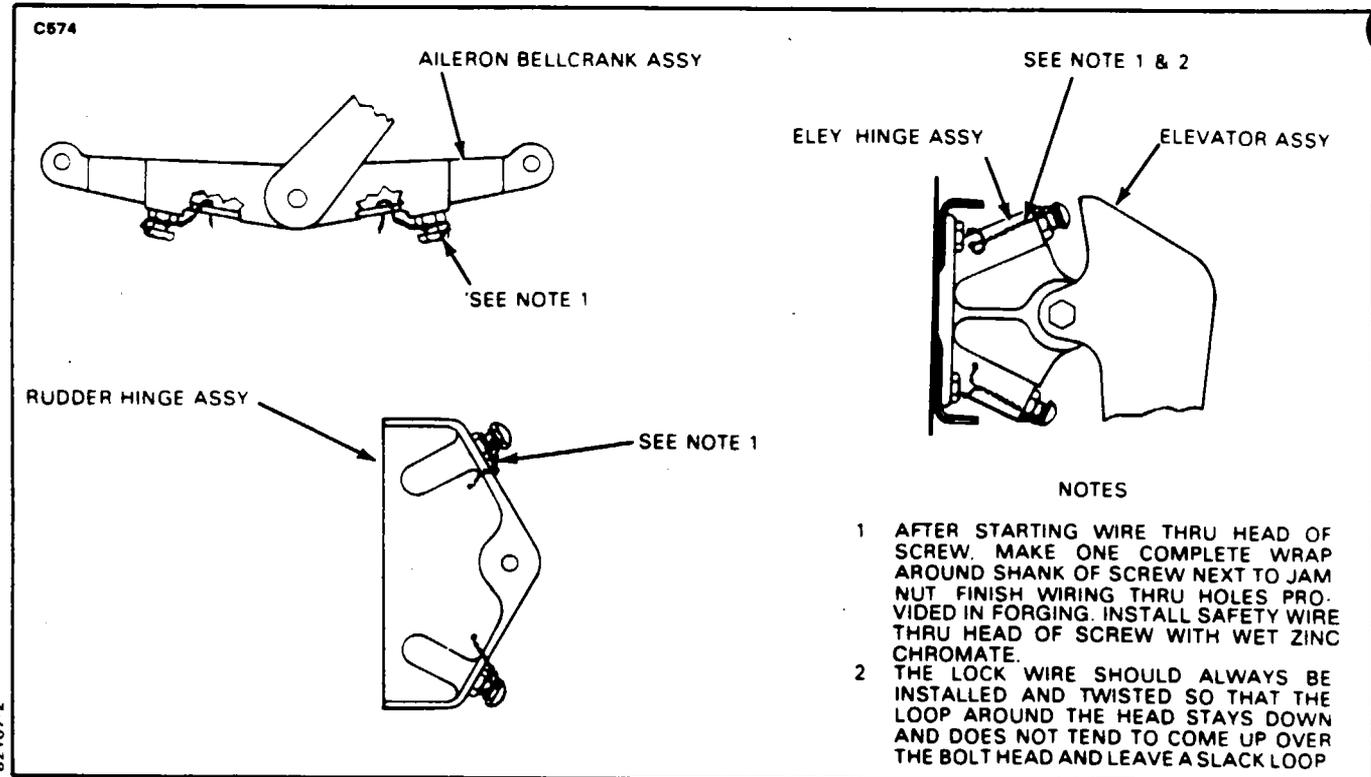

Figure 27-12. Safety Wiring Control Surface Stops
*If provisions are provided for safety wiring the nut and screw on the aileron bellcrank assembly, safety wire with MS20995C32 as shown in Figure 27-12.*